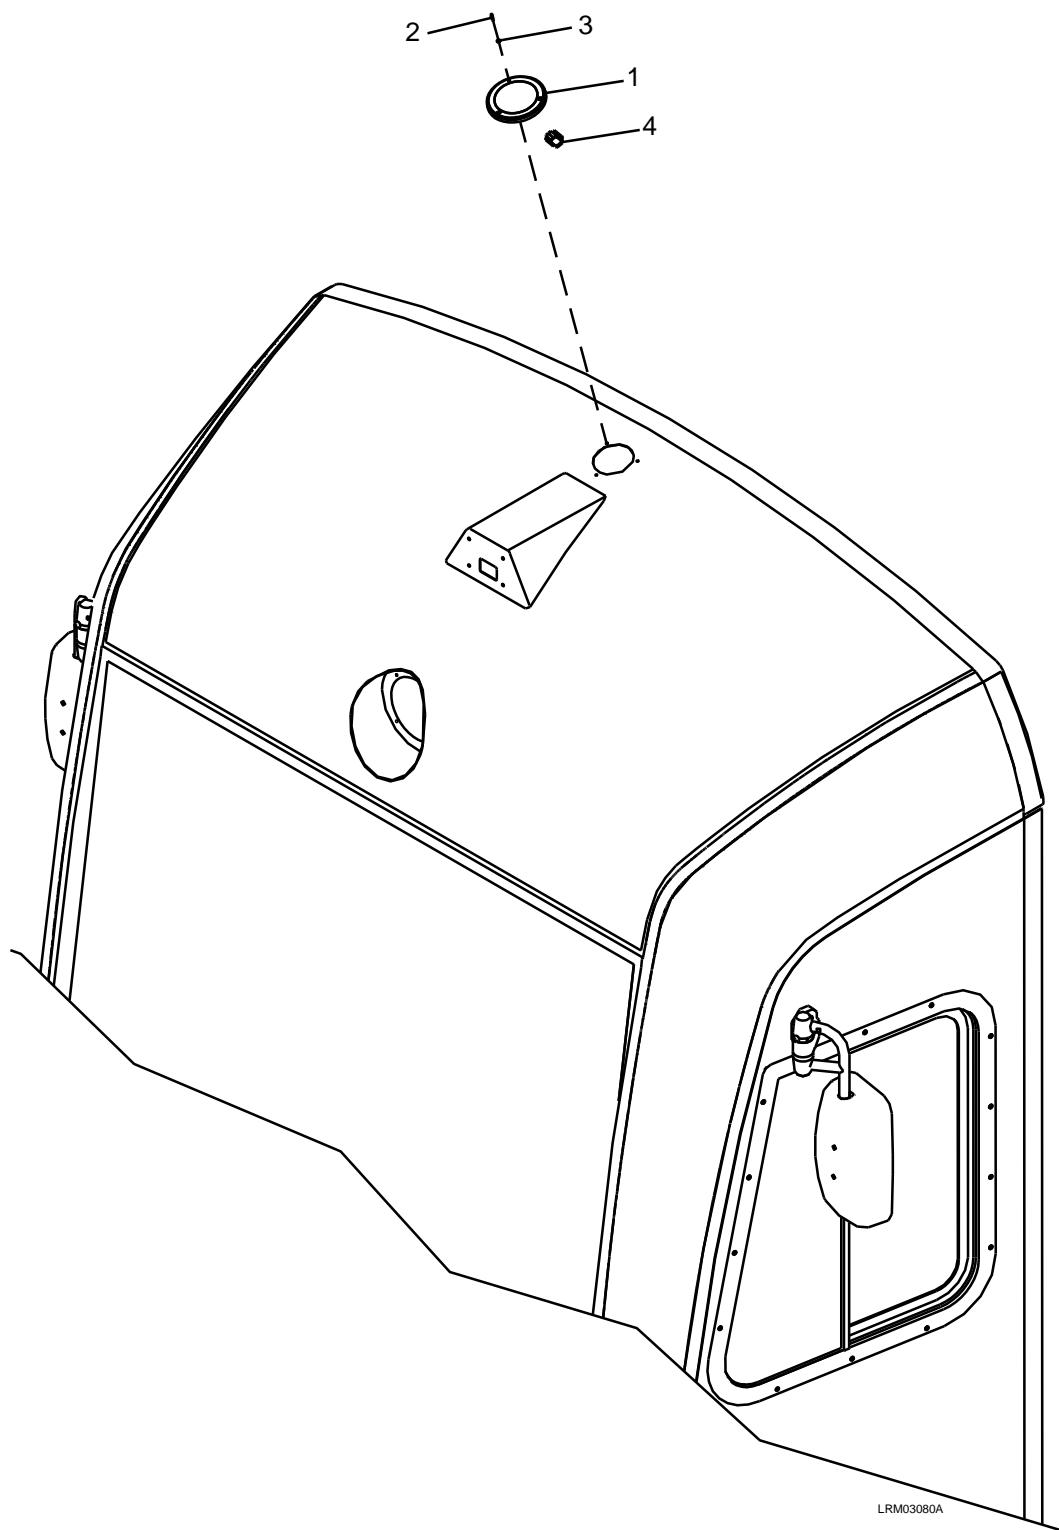

Figure 7-126: Silent Alarm
3. Remove the three M4 x 20 screws (2), and M4 plain washers (3). See Figure 7-126.
4. Remove the Silent Alarm (1) and disconnect the electrical connector (4).